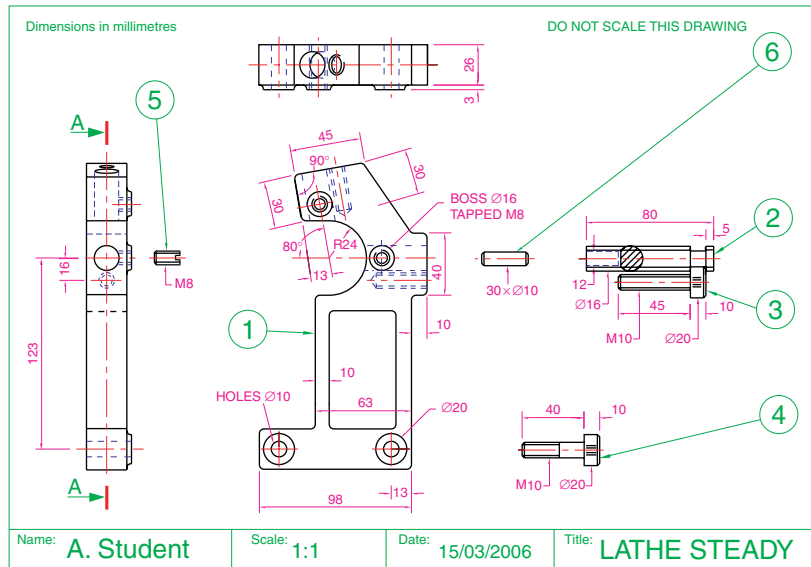

Fig. 17.39 Exercise 7 – details
7. An orthographic projection of the parts of a lathe steady are given in Fig. 17.39. From the dimensions shown in the drawing, construct an assembled 3D model of the lathe steady.